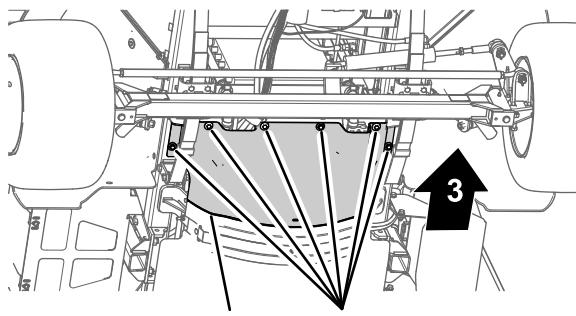

Figure 60
3. Remove the 6 hex-head bolts and 6 washers that secure the front, forward heat shield to the chassis and remove the shield (Figure 60).